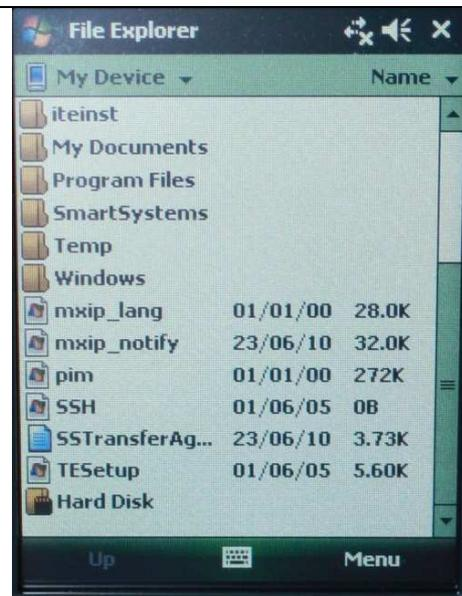

Figure 3 USB memory stick - Hard Disk
- Navigate to HardDisk (represents USB memory stick) (Figure 3)